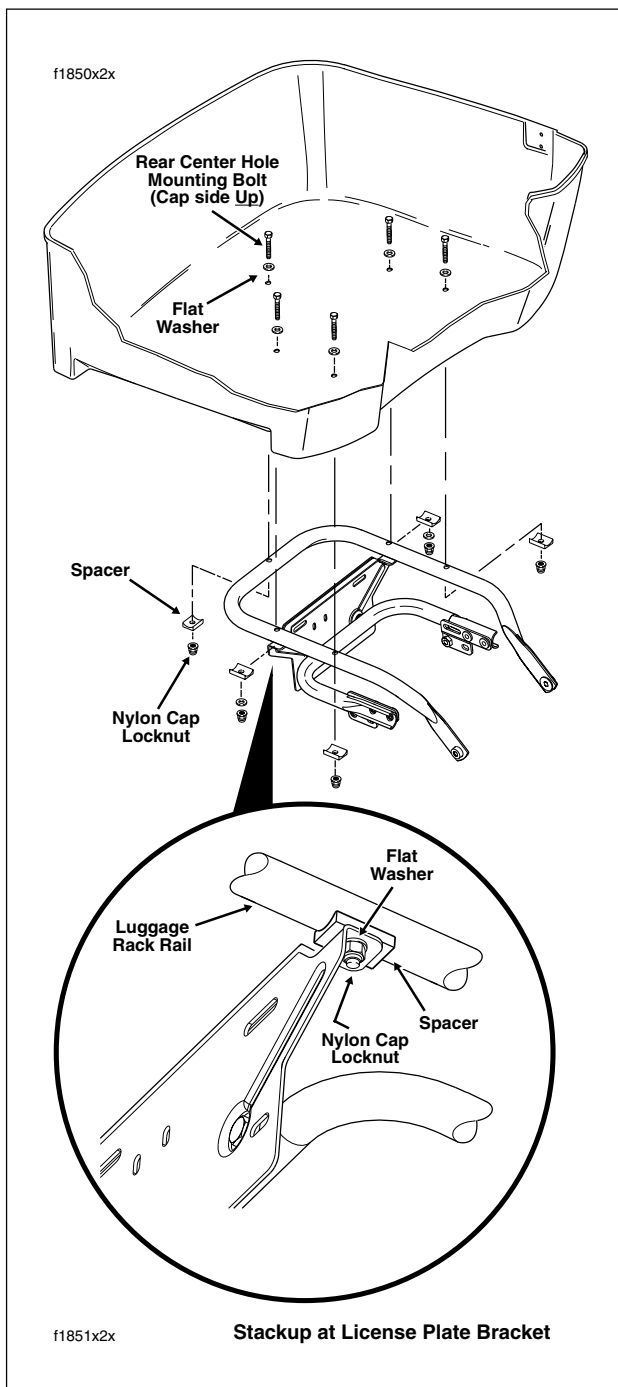

Figure 2-142. Install Tour-Pak Mounting Bolts
6. Holding nylon cap locknuts at bottom of Tour-Pak, remove five bolts (with flat washers) to release Tour-Pak from luggage rack. Luggage rack spacers will become free as nuts are removed. Be sure to have a firm grasp on the Tour-Pak as the last bolt is removed. See Figure 2-142.
4. Position two spacers between bottom of luggage rack and tabs of license plate bracket. Slide 2-1/4 inch bolts (with flat washers) through two center holes in Tour-Pak and luggage rack, and then through spacers and tabs of license plate bracket. If necessary, loosen two hex bolts at back of license plate bracket to align holes in tabs with bolts. Install flat washers and nylon cap locknuts on bolts and tighten until snug. See inset of Figure 2-142.
12. Holding nylon cap locknuts at bottom of Tour-Pak, remove five bolts (with flat washers) to release Tour-Pak from luggage rack. Luggage rack spacers will become free as nuts are removed. Be sure to have a firm grasp on the Tour-Pak as the last bolt is removed. See Figure 2-142.